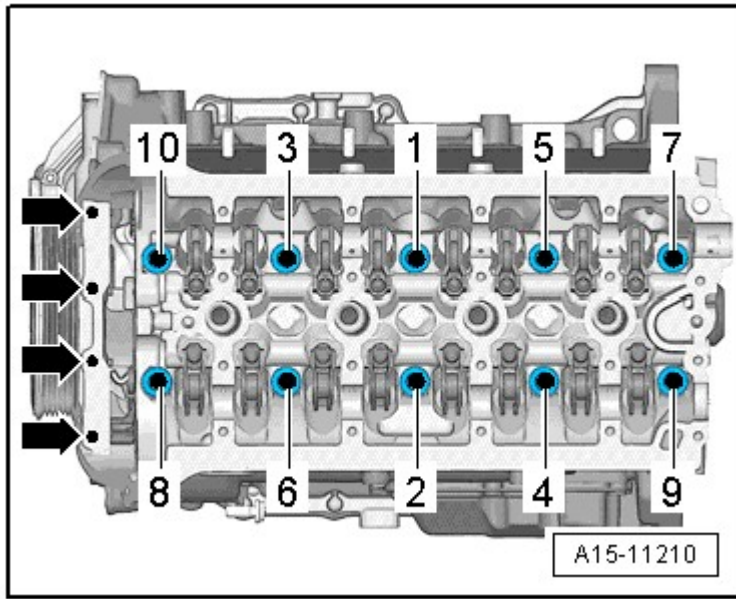

Fig. 20: Identifying Cylinder Head Tightening Sequence
- Follow the procedure when tightening. Refer to **Fig. 20**.